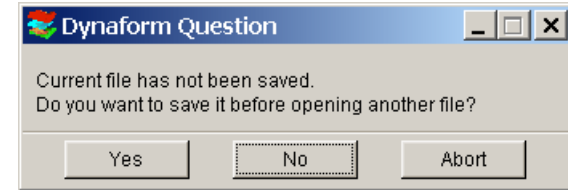

Figure 6.1
- b) Click **No** to deny saving the database (See Figure 6.1)